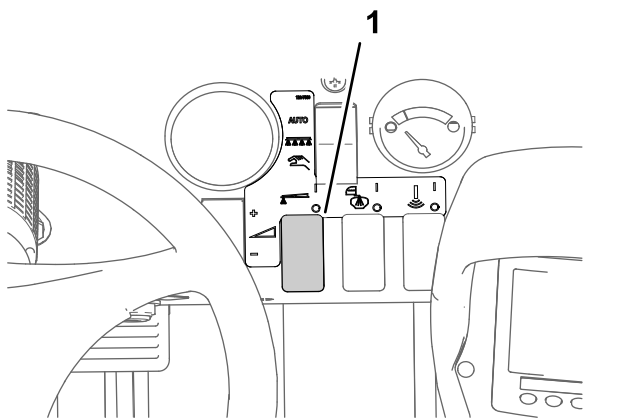

Figure 48
8. Use the application-rate switch to achieve the desired spray pressure as indicated in the nozzle-selection guide provided with the sprayer (Figure 48).